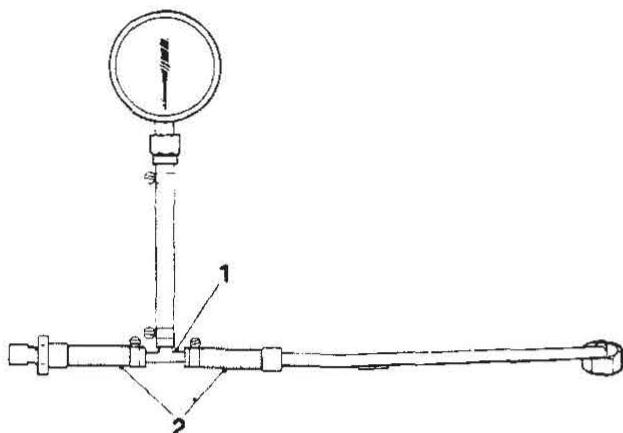

FIG. 3
3. Insert the tee piece (1 Fig. 3) in the open ends of the hose (2 Fig. 3) and secure with hose clips Part No. EAC 3215/2. Tighten the clips to a torque of 17 - 21 lbf/ins (1.92 - 2.37 Nm).